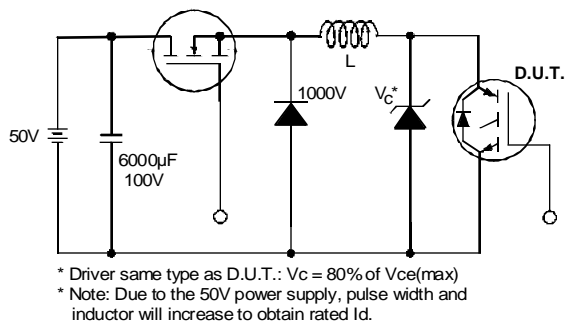

Fig. 19 - Clamped Inductive Load Test Circuit
② $V_{CC}=80\%(V_{CES}), V_{GE}=20V, L=10\mu H, R_G=23\Omega,$ (See fig. 19)
③ Pulse width $\leq 80\mu s$; duty factor $\leq 0.1\%$.
④ Pulse width 5.0 μs , single shot.